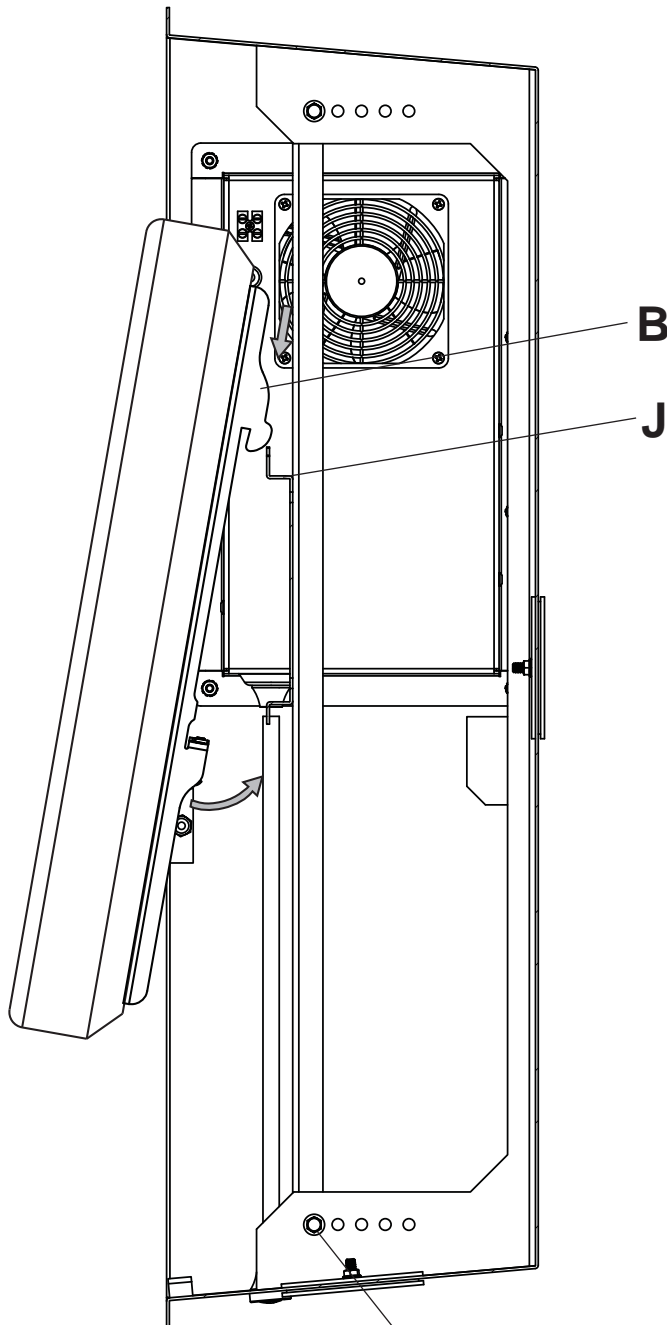

fig. 7.1
- 7** Hook adapter brackets (**B**) onto wall plate (**J**) then slowly swing display in as shown in figure 7.1.